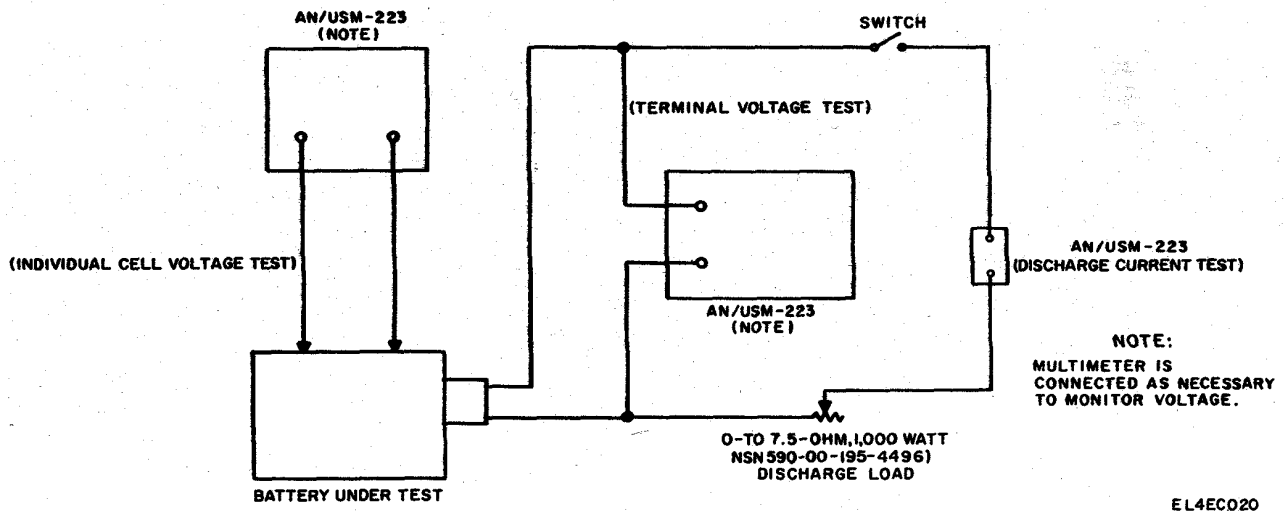

Figure 5-1. Capacity test Connection Diagram
(c) Connect the switch (item 7, app E), variable resistor (item 8) and test equipment as shown in figure 5-1. Two multimeters (AN/USM-223) are required. Charger/Analyzers as indicated in 5-3i, may be used in place of resistors. Check Charger/Analyzer literature to determine if the particular battery to be tested can be operated on the specific Charger/Analyzer.